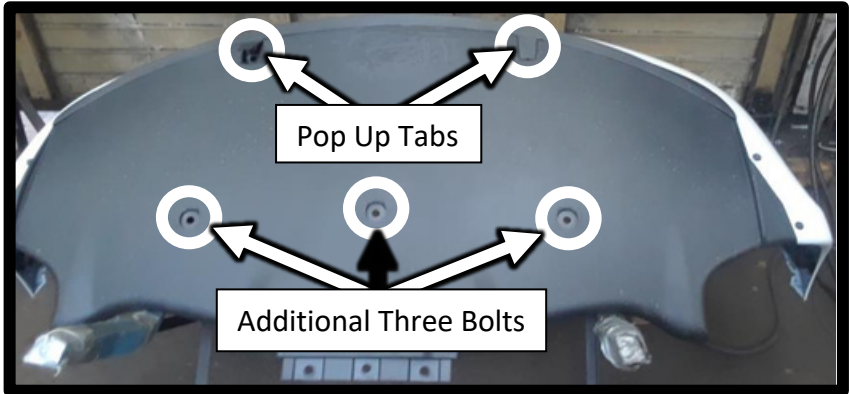

Figure 2.1
- Pop open the tabs in the rear of the bumper fascia and remove all bolts underneath the rear plastic pan as shown in figure 2.1